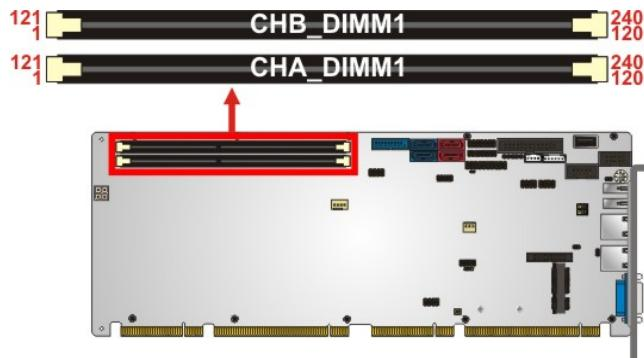

Figure 3-6: DDR3 DIMM Slot Locations
**CN Location:** See Figure 3-6